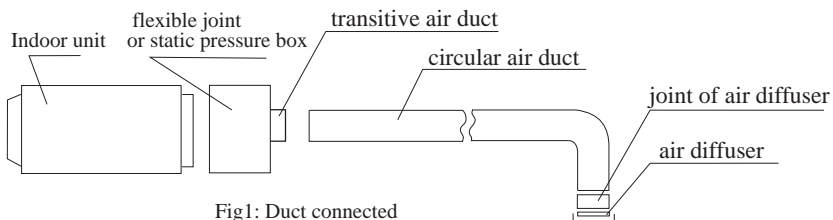

Fig 1: Duct connected
- An additional transitive air duct is necessary for the circular air duct to connect to the air supply inlet. It should be also connected to its respective air diffuser separately. See Fig.1. Adjust the wind speed of each air diffuser outlet to keep in line on the whole, so as to meet a demand of the air conditioner in the room.